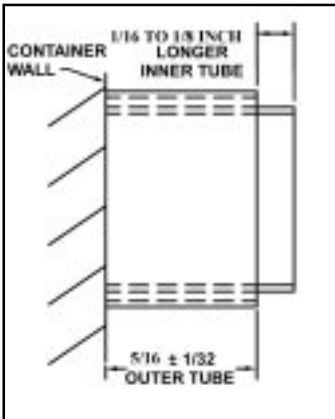

Figure 10 - Inner and Outer Tubes
- Install the inner tube on the lock case. Feed the cables through the outer tube and install the outer tube on the lock case. Measure and mark the inner tube to be 1/16 to 1/8 inch longer than the outer tube. (See Figure 10.) Remove the inner tube and cut by the same method as described in Step 5.
Note: *Make sure the tubes are projecting through the container as shown in Figure 10. If not, the tubes are not seated properly in the lock or they were not cut to the proper length. Correct the problem before proceeding.*